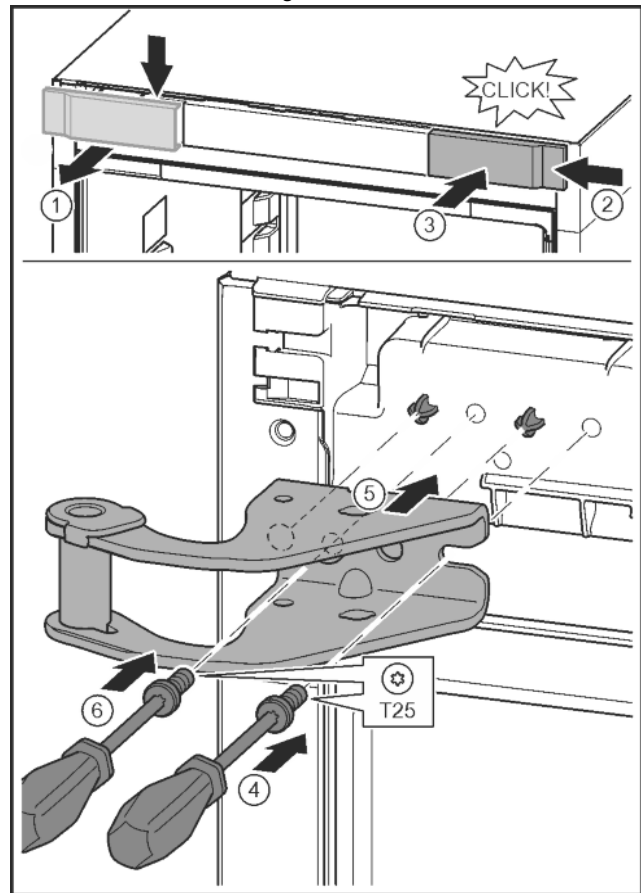

Fig. 14
- ▶ Release the cover and remove from the side. Fig. 14 (1)
- ▶ Rotate the cover 180° and clip onto the other side from the right. Fig. 14 (2)
- ▶ Click the cover into place. Fig. 14 (3)
- ▶ Position the screw with a T25 screwdriver. Fig. 14 (4)
- ▶ Position the upper bearing bracket. Fig. 14 (5)
- ▶ Tighten the screw. Fig. 14 (4)
- ▶ Insert the screw with a T25 screwdriver and tighten. Fig. 14 (6)